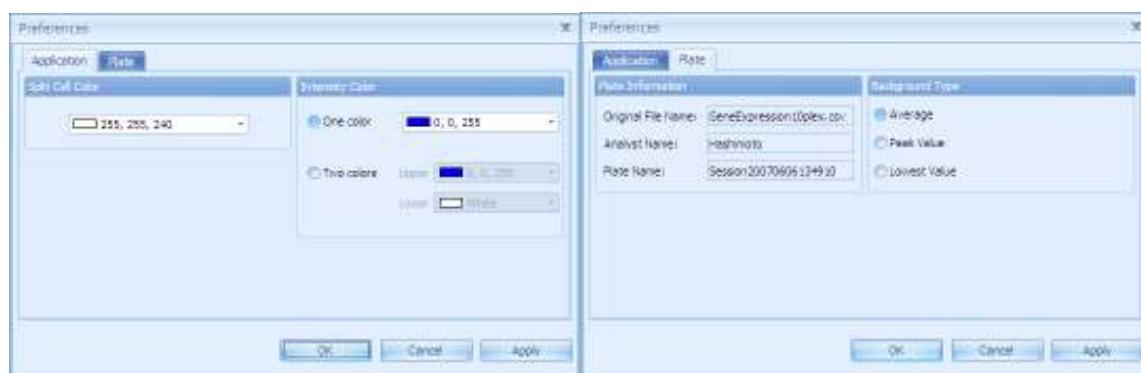

Figure 4.31 Preferences dialog box
- To open the Preferences dialog box (Figure 4.31), click the **Preferences** button .